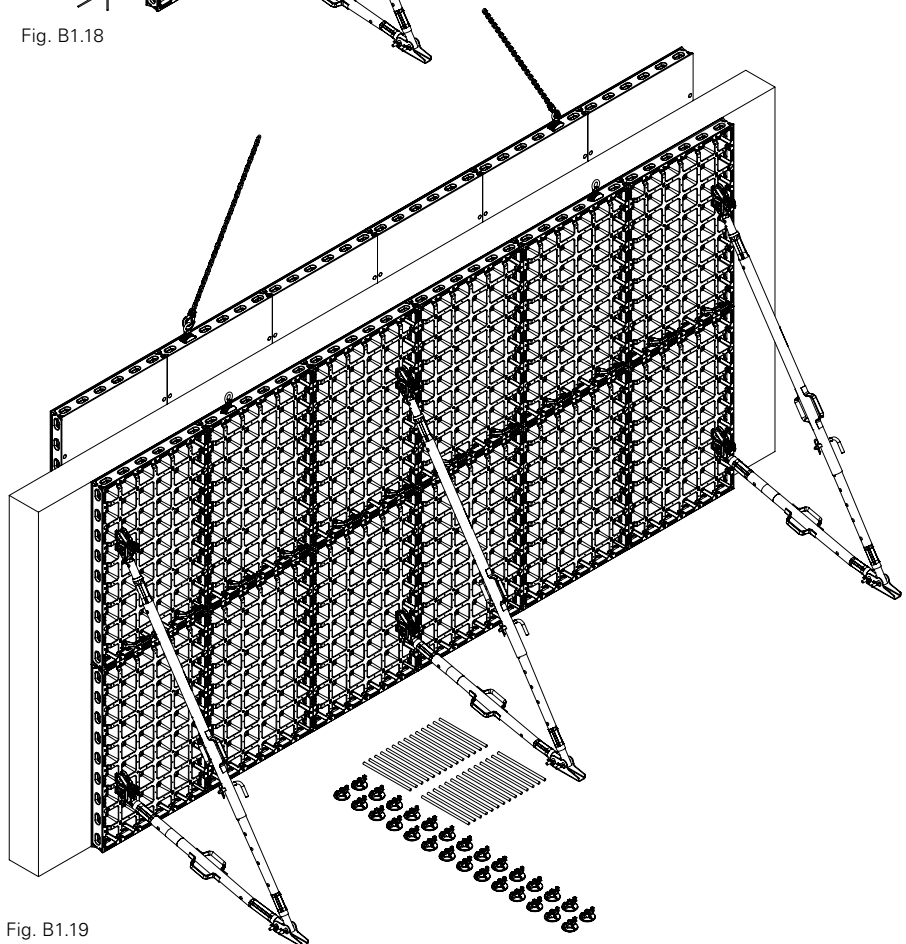

Fig. B1.19
5. Move, clean and transfer the panel unit to the next place of operation. (Fig. B1.19) Cleaning see section E1 Cleaning and maintenance.